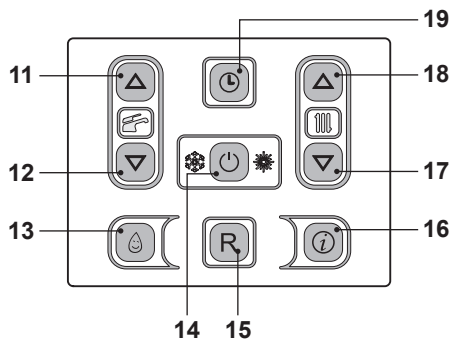
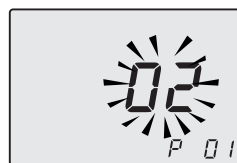

Fig. 7.24
Fig. 7.25
- Enter “programming mode” by holding down keys 14 - 17 - 18 together for 10 seconds (Fig. 7.24) until the LCD display indicates the letters **P01** and the value of the parameter, indicating entry in “parameter 01” (Fig. 7.25).
- By pressing key 14 (Fig. 7.24) confirmation of the inserted value is obtained.